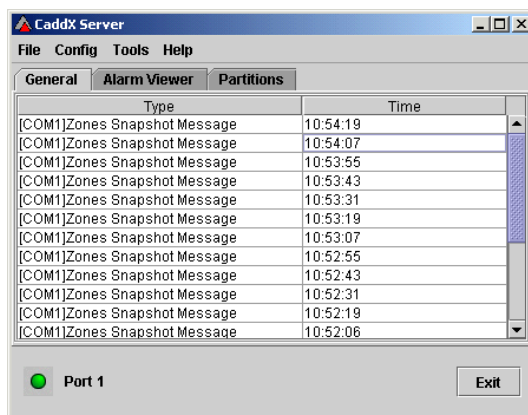

Figure 7 : CaddX Server dialog – General Tab selected
- [2] The CaddX Server dialog shown in Figure 7 will be displayed.